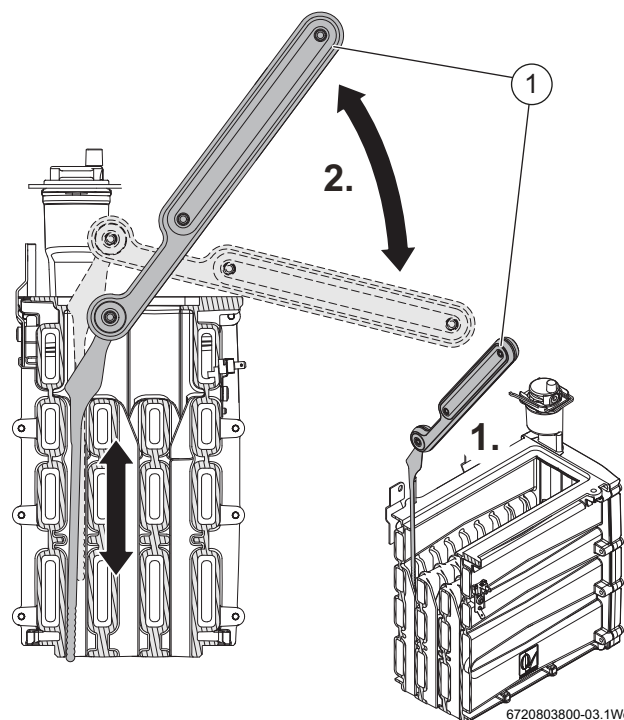

Fig. 81 Heat exchanger cleaning tool
1. Orient the cleaning tool (2) as shown in figure 81 and insert the tool into the rear or middle channels for cleaning.